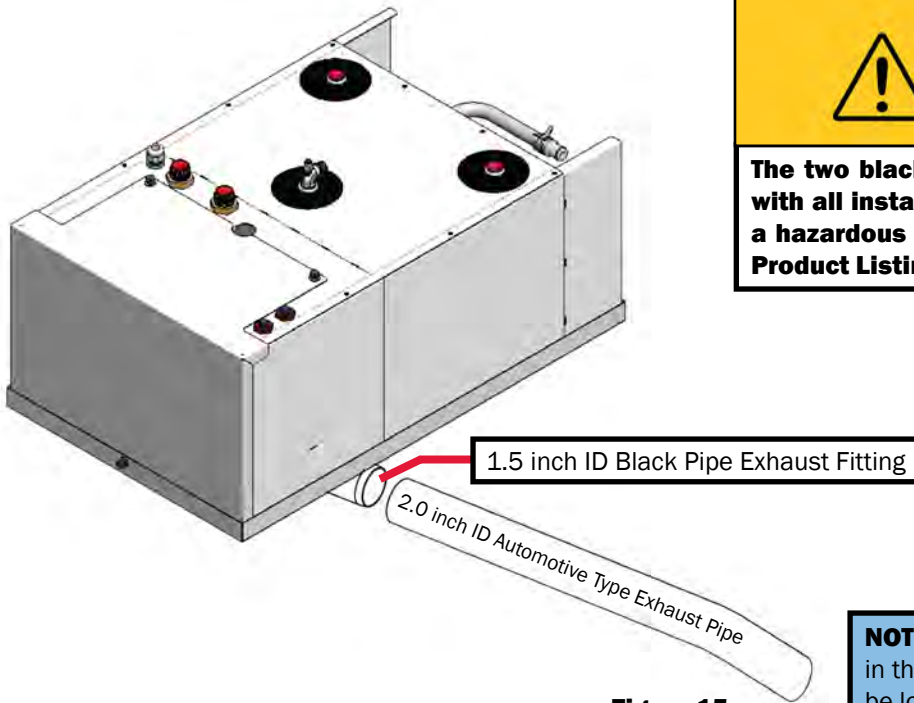
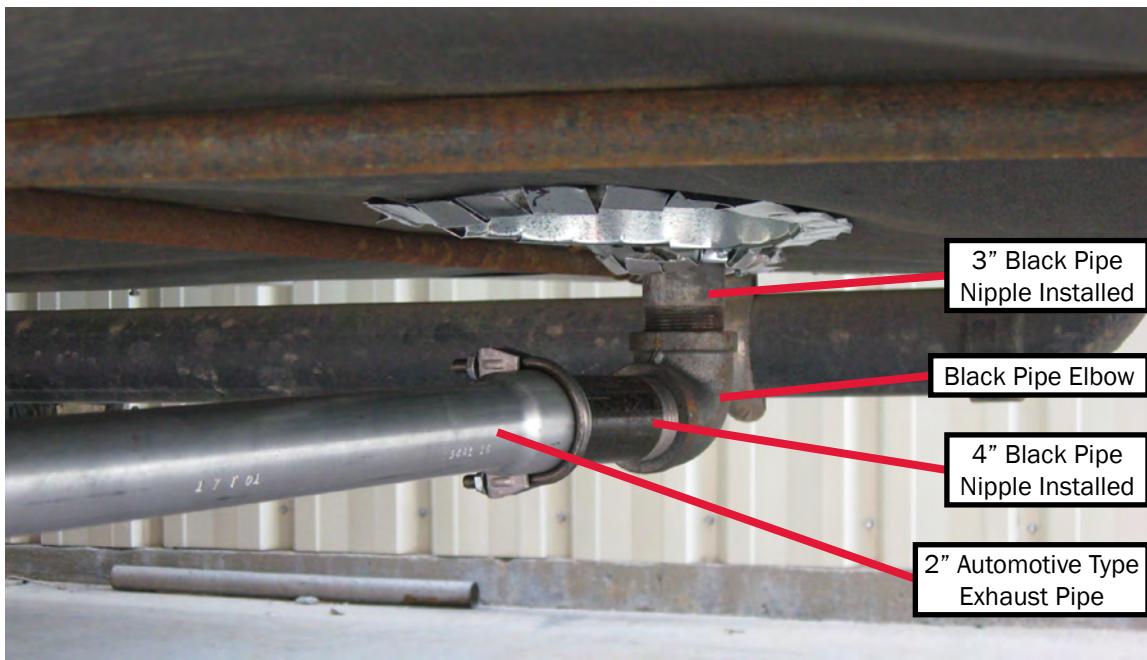

Figure 15
Figure 18
- Use standard 2" automotive-type exhaust piping and avoid bends, if possible. A minimum 1.75" ID automotive-type exhaust pipe may be used. See Figure 15 & Figure 18.
- A maximum of three 90° exhaust bends are allowed. Reference Figure 15.
- Do not use galvanized pipe fittings (only black-iron pipe and fittings should be used). Reference Figure 18.